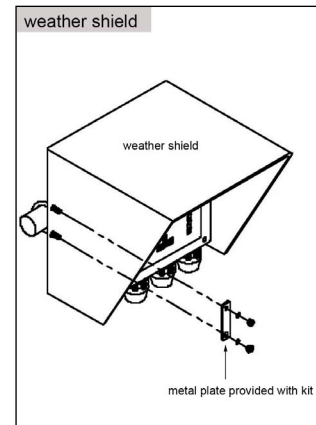

Figure 3.9
2. At step 3 (surface mount) or step 4 (rail mount), attach the weather shield with the metal plate installed securely to the surface or rail. Figure 3.9 shows the weather shield installed for a rail mounted 5X00.